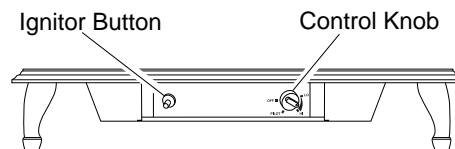

Figure 30 - Control Knob and Ignitor Button Location
- Wait five (5) minutes to clear out any gas. Then smell for gas, including near the floor. If you smell gas, STOP! Follow "B" in the safety information on page 14, column 1. If you don't smell gas, go to the next step.
- Slightly depress and turn control knob counterclockwise to the PILOT position. Keep control knob pressed in for five (5) seconds (see Figure 30).